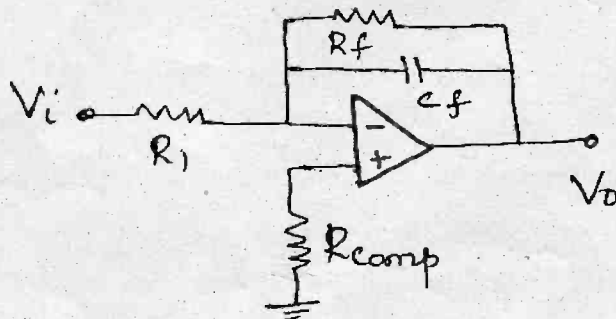

Figure 2
- (b) (i) Discuss the different ways to fabricate diodes. (10)
- (ii) Explain how a monolithic capacitor can be fabricated. (6)
12. (a) (i) Consider the lossy integrator as shown in figure 2. For the component values  $R_1 = 10 \text{ k}\Omega$ ,  $R_f = 100 \text{ k}\Omega$ ,  $C_f = 1 \text{ nF}$ , Determine the lower frequency limit of integration and study the response for the inputs